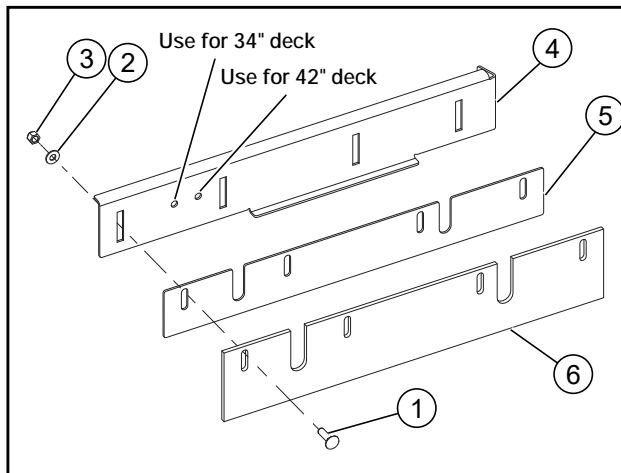

FIG. 2
4. Line up the rubber flap and the clamp plate with the correct clearance hole in the rear mount plate. FIG. 2
5. Attach the mount plate, rubber flap, and the clamp plate together using the hardware shown. FIG. 2